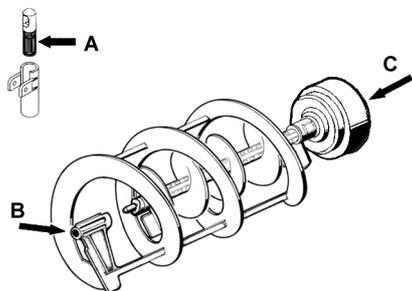

figure 11
- Lubricate faucet piston, inside auger and outer spiral (see points A, B and C of figure 11) only with the grease supplied by the manufacturer or other **food grade approved** lubricant.